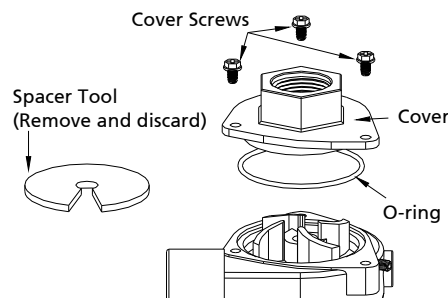

Figure 10
13. Apply a thin coat of oil to the new o-ring (Ref.No.8); then install the new o-ring onto the cover (See Figure 10).
14. Align the cover with the housing and secure it to the cover using the three cover screws (Ref.No.7) (See Figure 10).